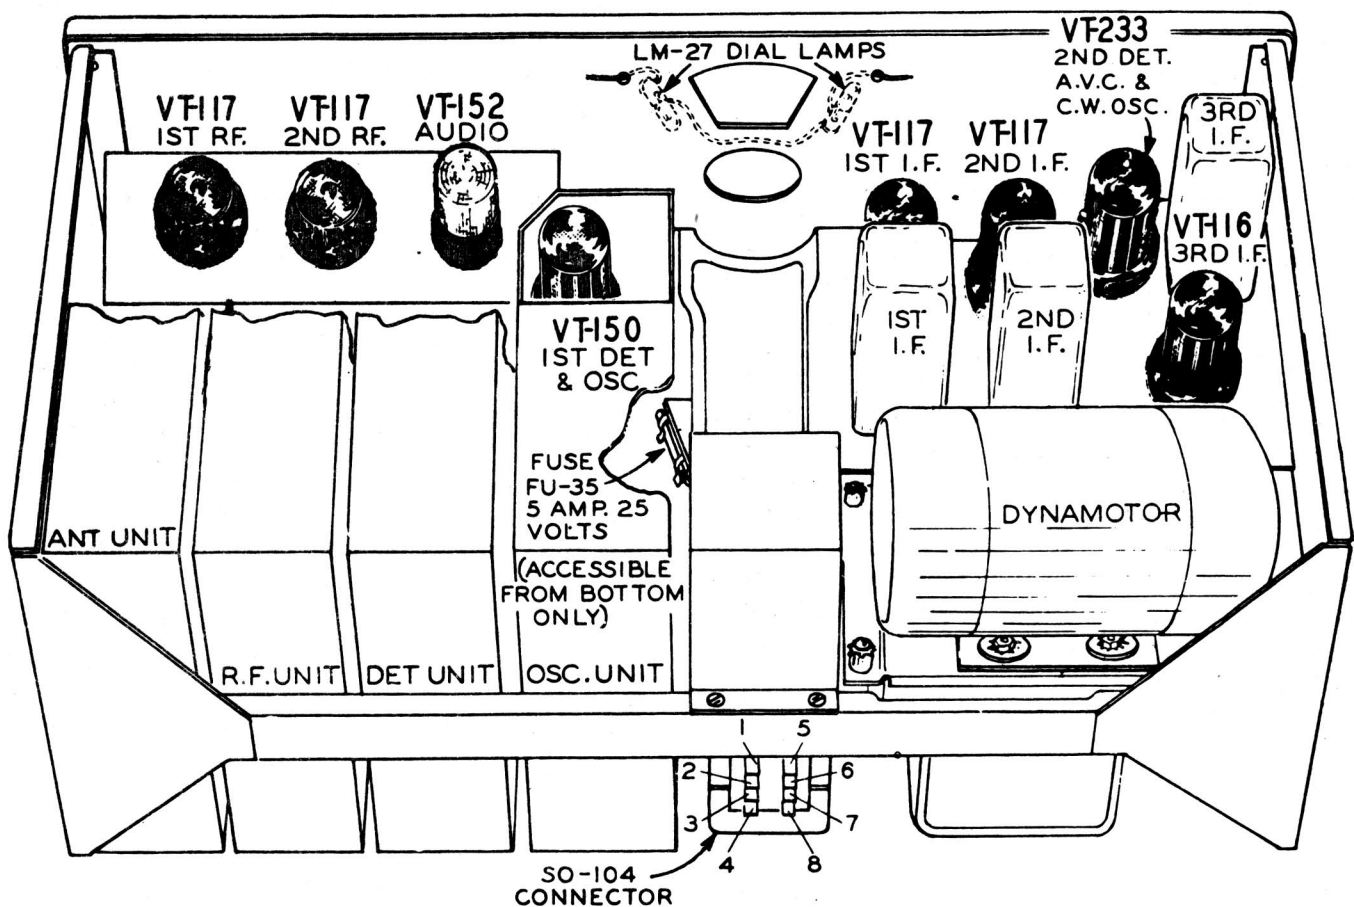

Figure 2 — Radio Receiver BC-348-J, Tube Positions
(1) Figure 2 shows the position of each tube, dial lamp and fuse. Before the receiver is installed, loosen the thumbscrews in the lower part of the handles on the front panel and pull the chassis from the cabinet. Make certain the tubes are well pushed down and firmly seated, and that the fuse and dial lamps are correctly and securely inserted.
(2) The dynamotor and the electrical connections to the dynamotor must be securely fastened in position. The dynamotor is fastened by four mounting screws at the corners of the mounting plate and the electrical connections are made at a terminal strip accessible through a cutout in the left (from front of chassis) chassis end plate.